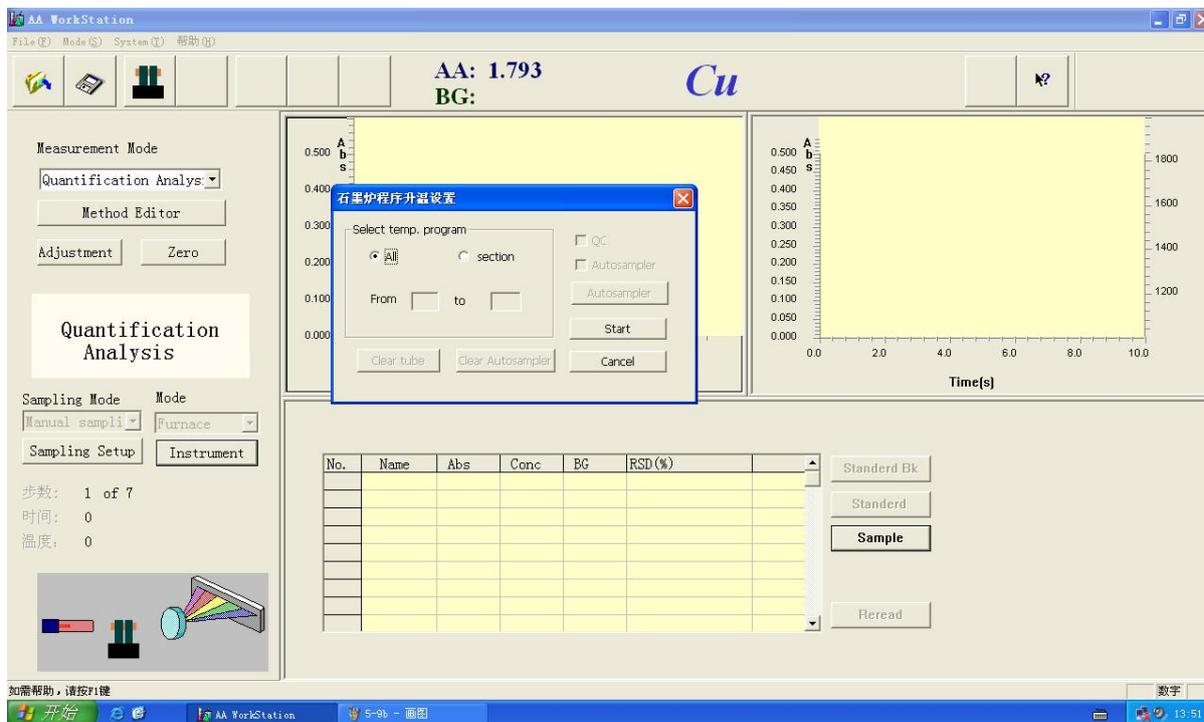
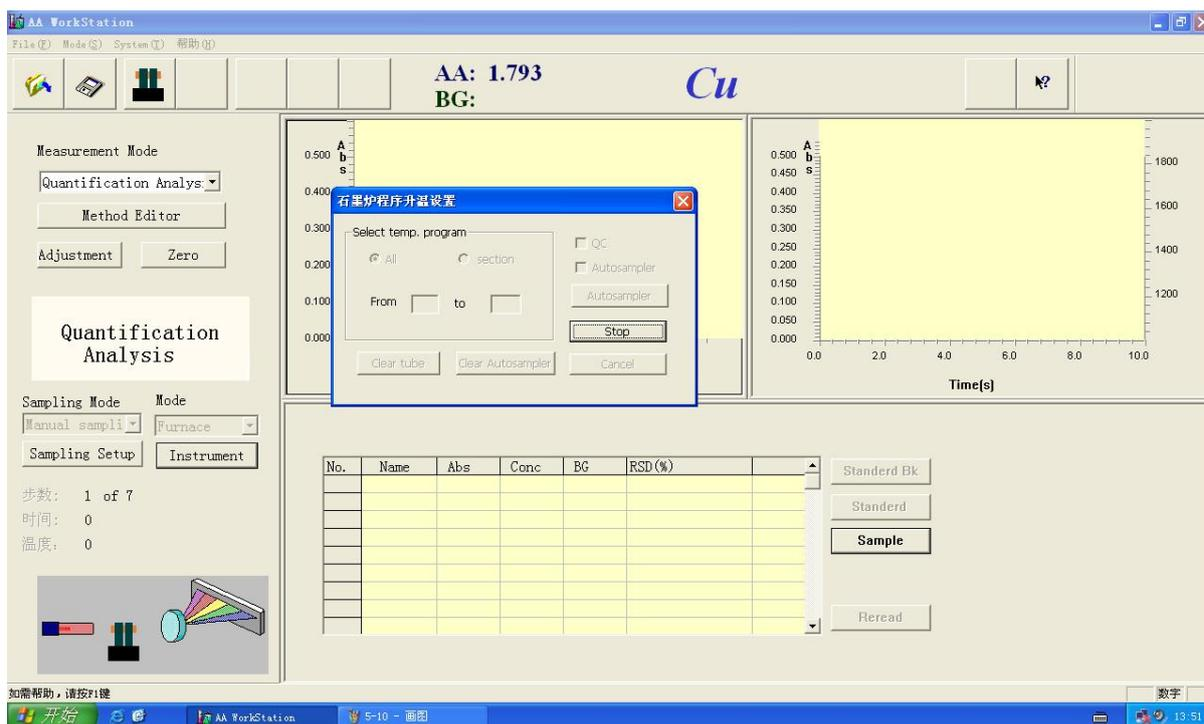

Figure 5-23
Figure 5-24
15. Select the “All” in the Figure 5-23 dialog box, press “Start” to start heating. At this time, the “Start” change into “Stop” (Figure 5-24)